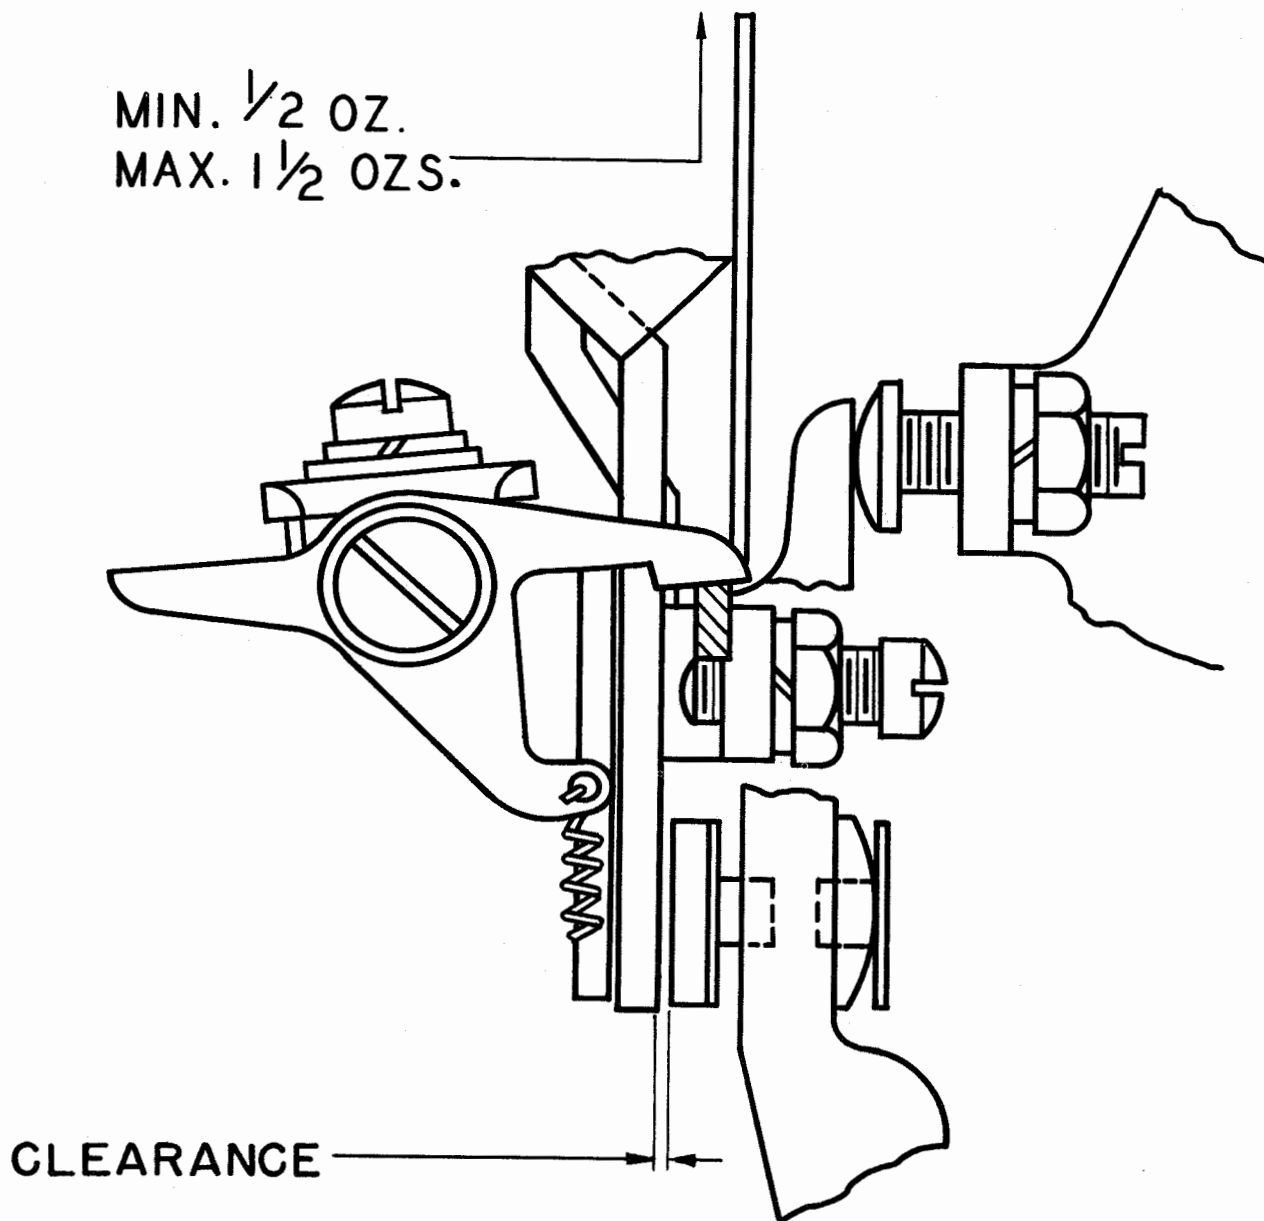

Figure 41
3.38 Latch Spring should have a tension so that it requires minimum 1/2 ounce, maximum 1-1/2 ounces to just start the latch moving away from the latch extension, when the punch-contact operating lever is resting against its backstop screw and the positive action latch is resting against the latch extension on the lever. See Figure 41.